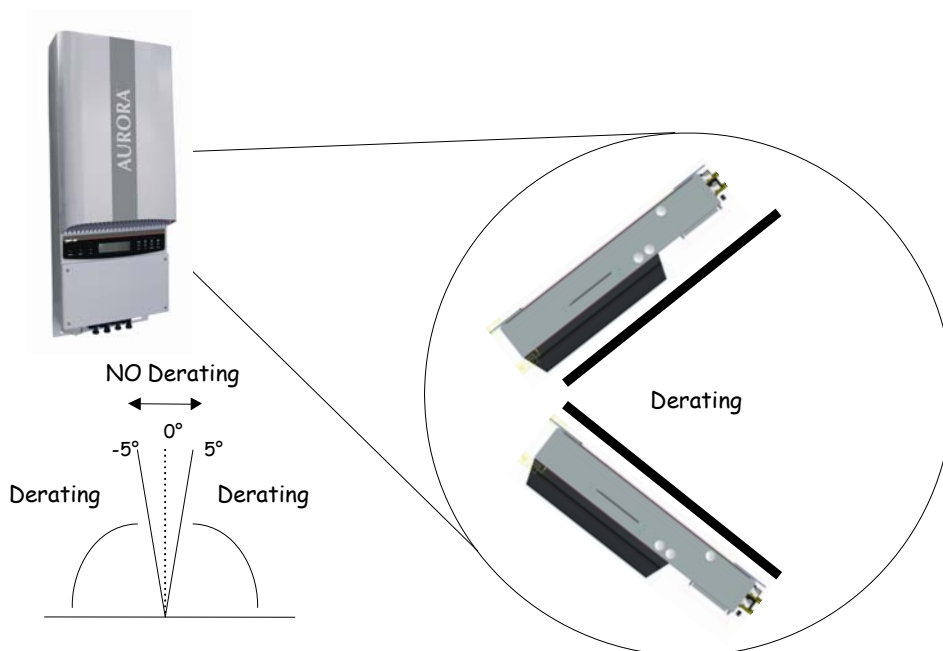

Fig.8 Tilted mounting
**NOTE:** Tilted mounting is allowed (see fig.8), but will worsen heat dissipation and may result in derating.